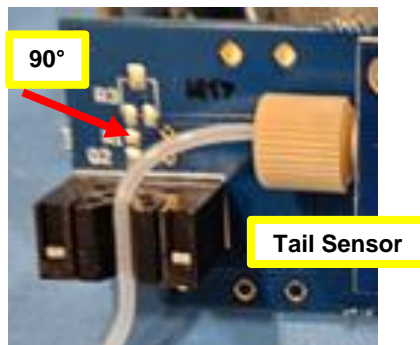

Figure 35
8.1. Install the new Needle to Reading Cell Tubing in the tail sensor's slot and make sure that the tube is pushed in the slot and tube makes nearly 90° angle from the reading cell through the tail sensor. Figure 35.